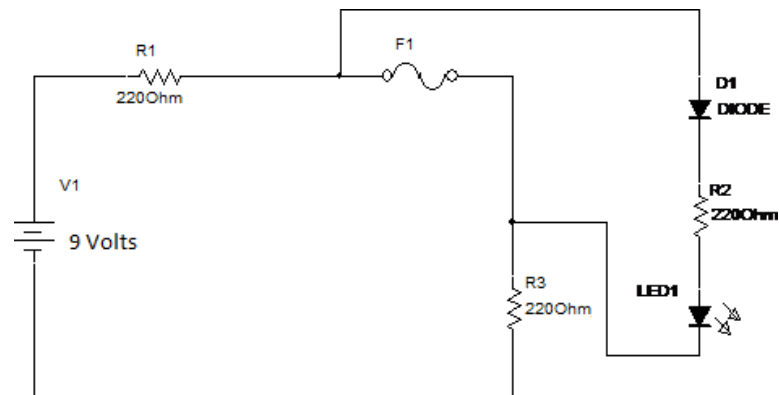

Figure 3: Blown fuse indicator
2. Mount the circuit as shown in the Figure 3 with Fuse wire connected in circuit.
5. Mount the circuit as shown in the Figure 3 without Fuse wire connected in circuit.